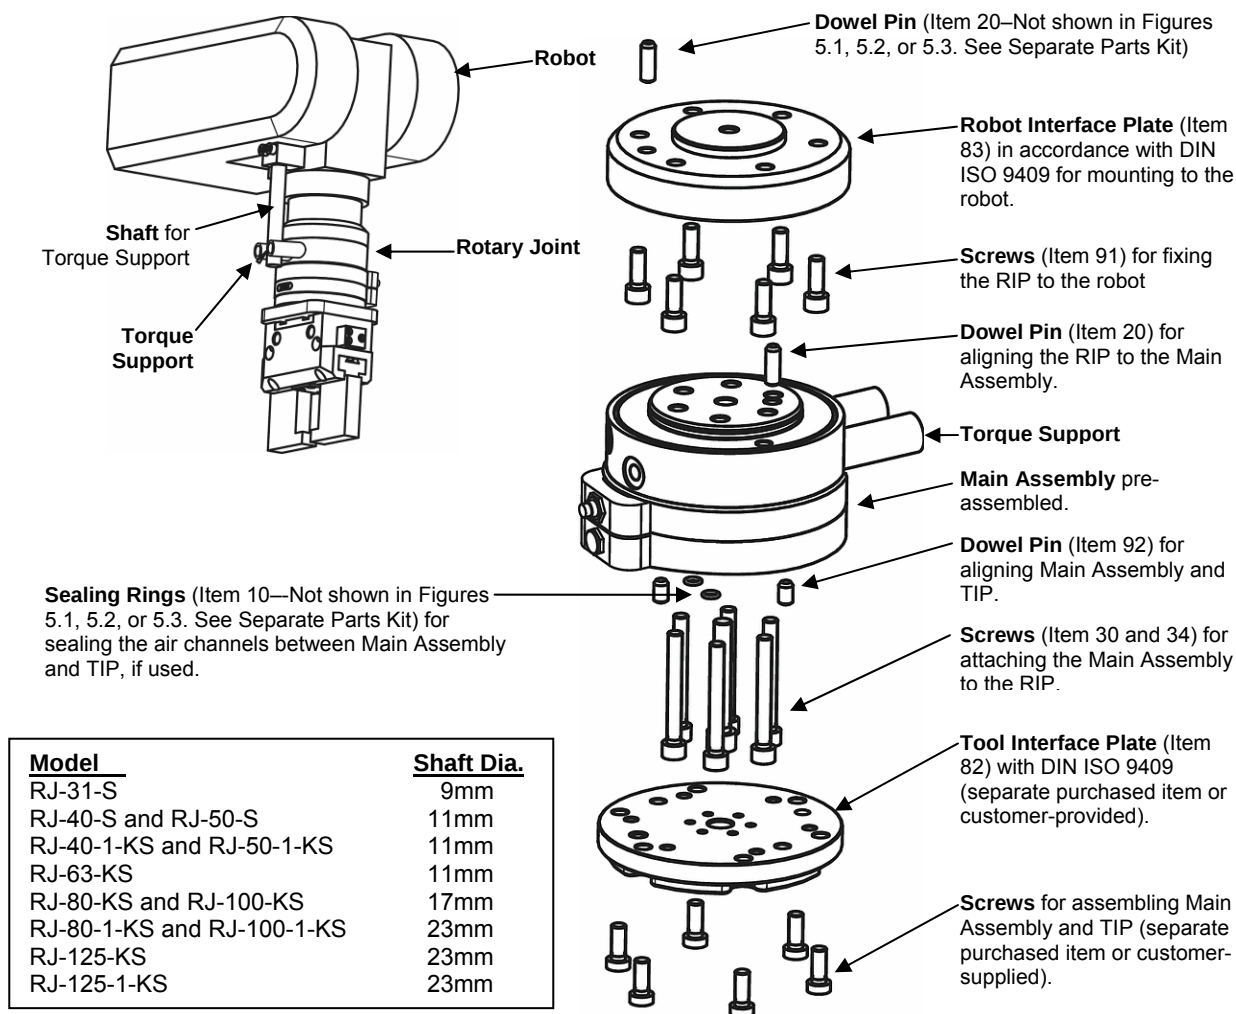

Figure 3.2—Assembling the RJ
(Item numbers are shown in the assembly drawings, Figures 3.2, 5.1, 5.2, and 5.3.)
6. Insert cylindrical pins (Item 92—Figure 3.2 only. See Separate Parts Kit) into the main body assembly.
- If making a tubeless air connection on the downside of the RJ, the interface plate must have a recess for the o-rings (Item 10—Figure 3.2 only. See Separate Parts Kit).
(Item numbers are shown in the assembly drawings, **Figures 3.2, 5.1, 5.2, and 5.3.**)
3. If used, remove the seals (Item 10—Figure 3.2 only. See Separate Parts Kits).